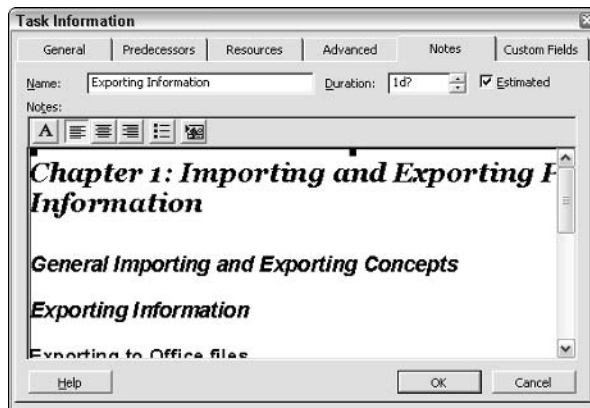

Figure 26-31: A Word document inserted as a graphic image in a task note.
6. Click OK. Project displays a graphic image of your file, as shown in Figure 26-31.